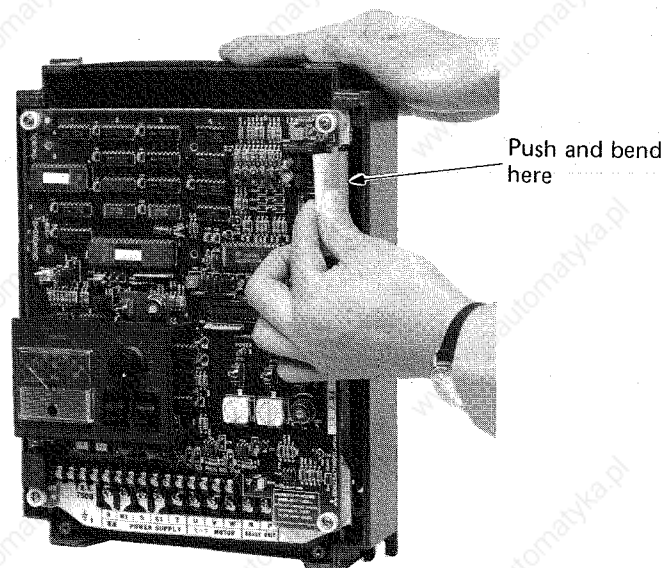

Fig. 15.2.5 Push and Bend The Flat Cable
*Note: As shown in Fig. 15.2.5, when you've exchanged the printed circuit board of FR-F2-750B-U, 1500B-U take care to push and bend the flat cable so that the flat cable can keep the distance from the chassis. (To keep the noise resistration capacity)*